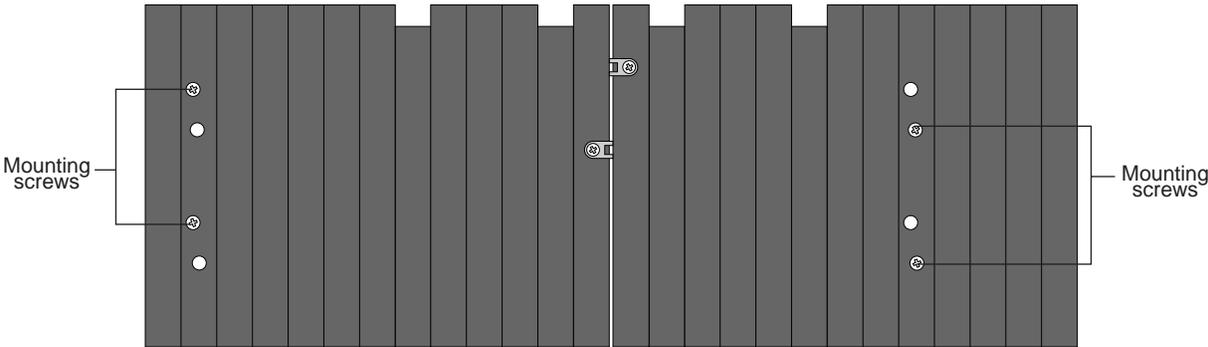

Figure 6. HDDA chassis screw locations (side view)
13. Using a #2 Phillips screwdriver, remove the eight screws (four on each side) that secure the HDDA chassis to the frame. See Figure 6 for screw locations.
1. Slide the replacement HDDA chassis into the NS 7000/030 frame and align the screw holes in the side of the chassis with the screw holes in the side of the frame (Figure 6). Make sure the front of the HDDA is flush with the front edge of the plastic frame.